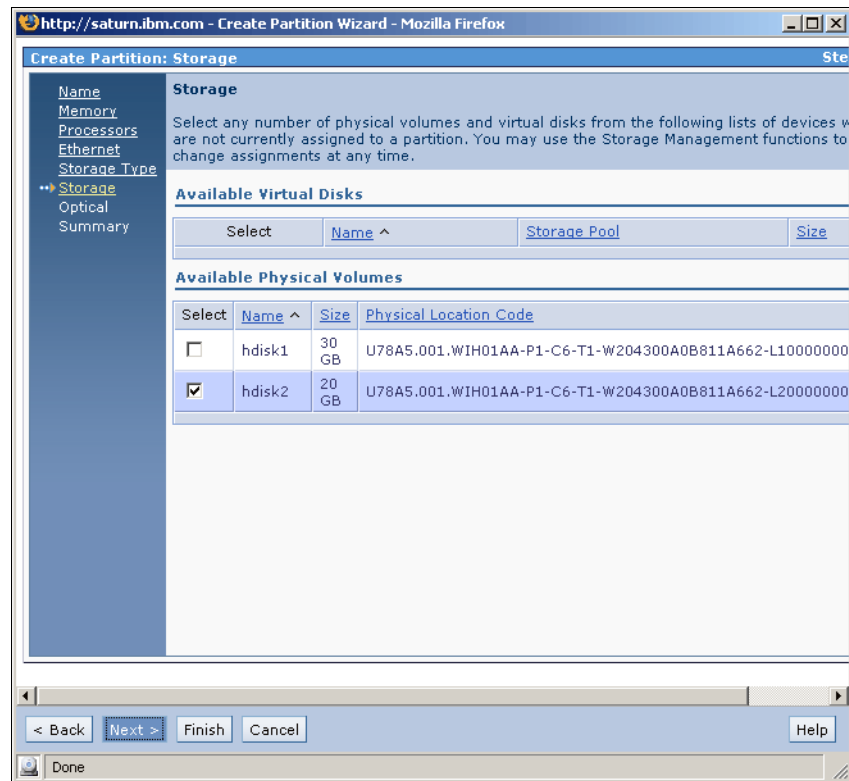

Figure 6-21 Create partition - select physical volumes
10. Select the physical volume or volumes that need to be available to the partition. Figure 6-21 shows the section of hdisk1. Click **Next** to proceed.